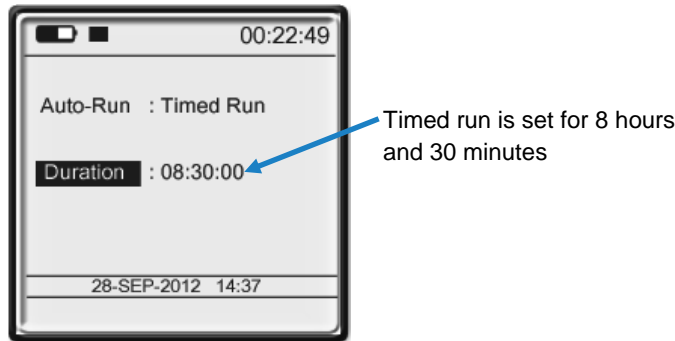

Figure 3-8: Auto-Run screen
- To select timed run, press / keys until it appears and press  key. The duration field will appear. (See Figure 3-8 below.)